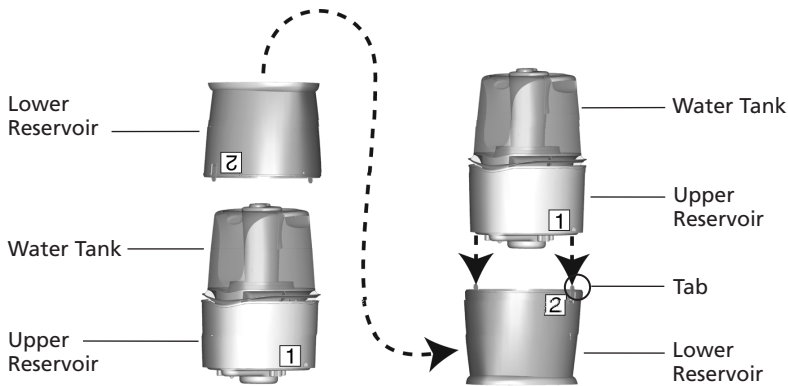

Figure 3
3. Remove the Lower Reservoir (marked with the number 2) from the Water Tank and Upper Reservoir (marked with the number 1). See Figure 3.
5. Lift the Upper Reservoir (marked with the number 1) and Water Tank and place them on top of the Lower Reservoir (marked with the number 2) so that the two tabs in the Lower Reservoir snap into the Upper Reservoir. See Figure 3.